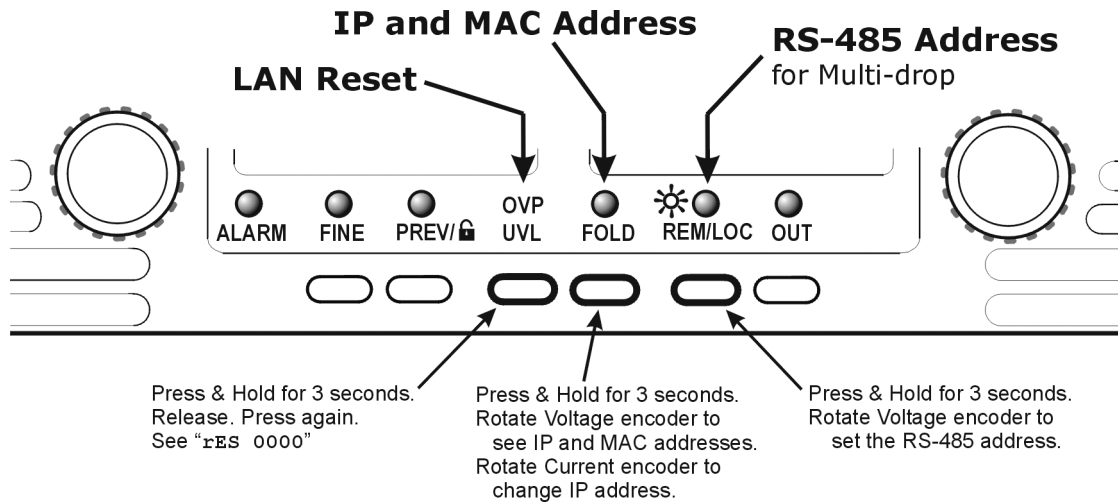

Figure 1. Front Panel LAN Features
- Figure 1. Front Panel LAN Features 6